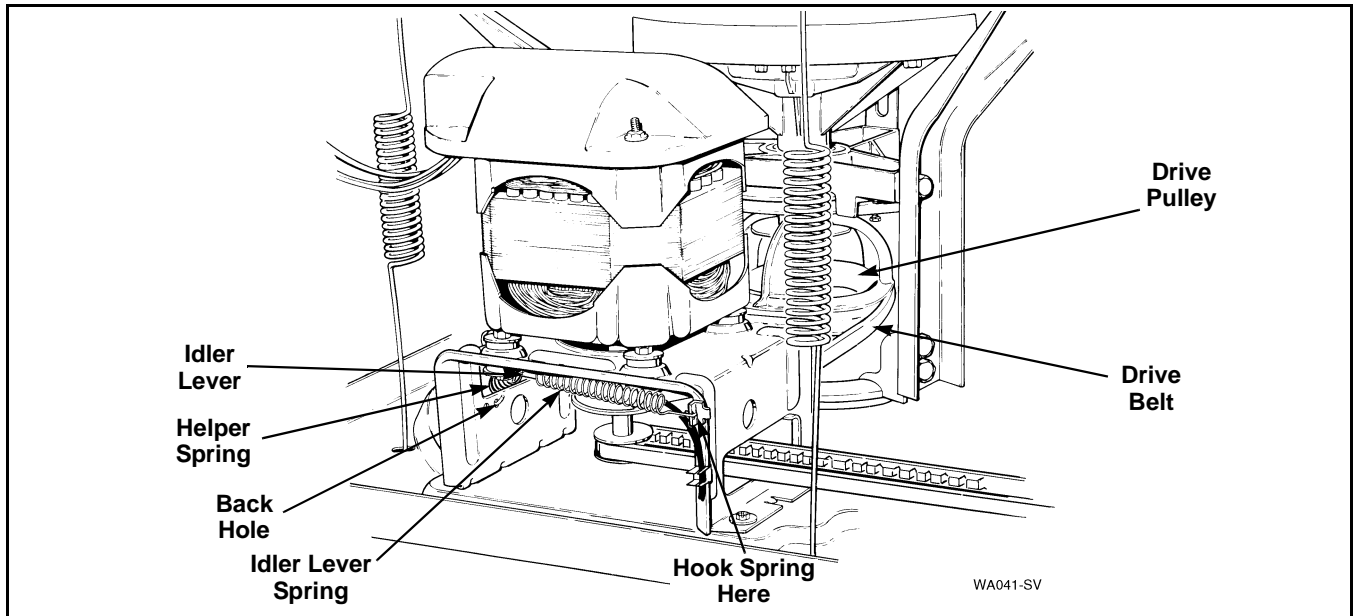

Figure 54
- g. Reconnect idler spring to clip on motor mounting bracket and helper spring into the back hole in the mounting bracket. Refer to *Figure 54*.